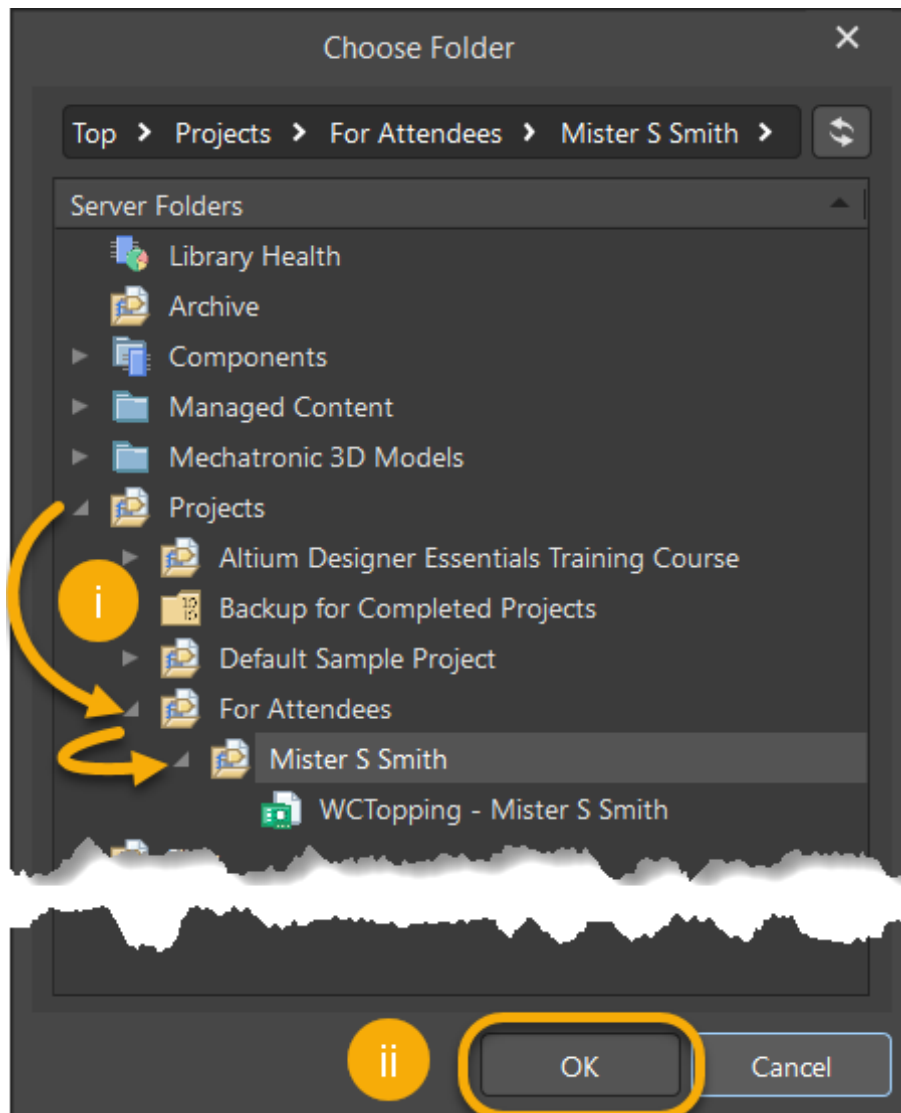

Figure 5. Last Image Step d - Choose Folder for Project Copy
- c) Open the Advanced section if needed. Select the Ellipsis Button  from the **Folder** configuration to open the *Choose Folder* Dialog, Figure 5.